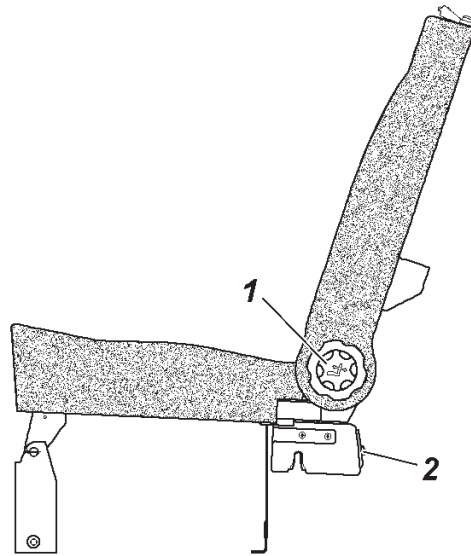

Fig. 3.9. Rear triple seat:
The rear triple seat (Fig. 3.9) can be spread out to organize a sleeping area, or folded to increase cargo space.
- turning handles 1 (Fig. 3.9), tilt the rear triple seat backward until it stops;
- turning handles 1 (Fig. 3.9), tilt the rear seat backs forward until they stop;
- unlock the rear seat locks with lock 2 handles (Fig. 3.9);